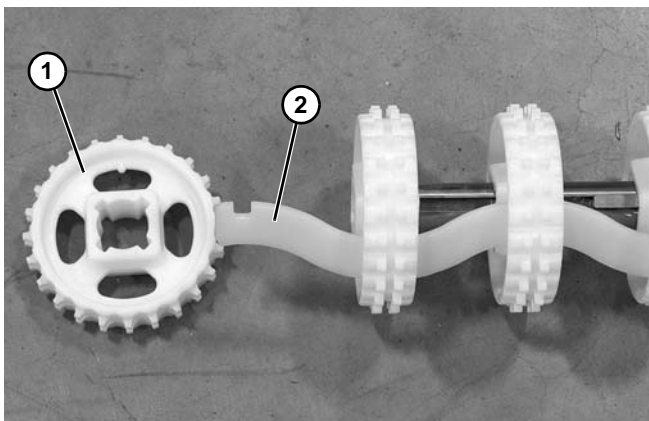

Figure 61
10. Slide entire sprocket assembly slightly outward, and remove the first sprocket (**Figure 61, item 1**) off the drive spindle and alignment key (**Figure 61, item 2**).